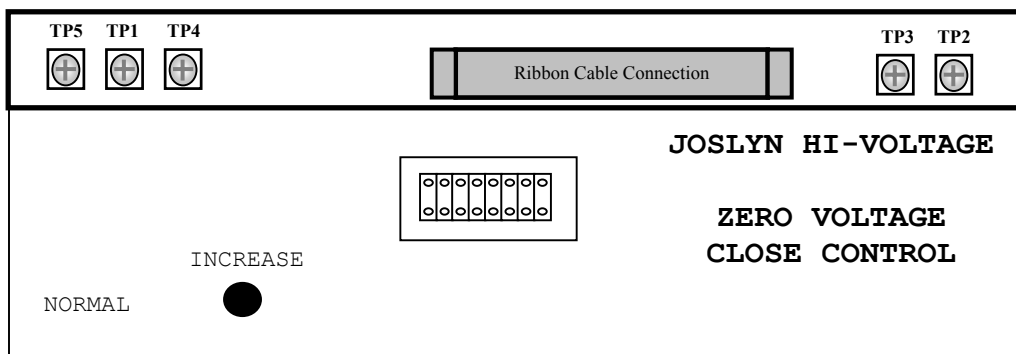

Figure 1: SCR Board Test Terminals
*The capacitor voltage can be measured for each phase in the field by utilizing the test terminals points located in the corners of the control and just above the front display panel. The capacitor voltage value for each phase will range between 125 – 128Vdc. The common/ground terminal point is located at test point TP3. Test point TP2 to TP3 measures Phase A, TP4 to TP3 measures Phase B, and TP5 to TP3 measures Phase C. Test TP1 to TP3 measures the charging input circuit and will range between 352 – 362Vdc. See **Figure 1** for additional details on the terminal locations.*